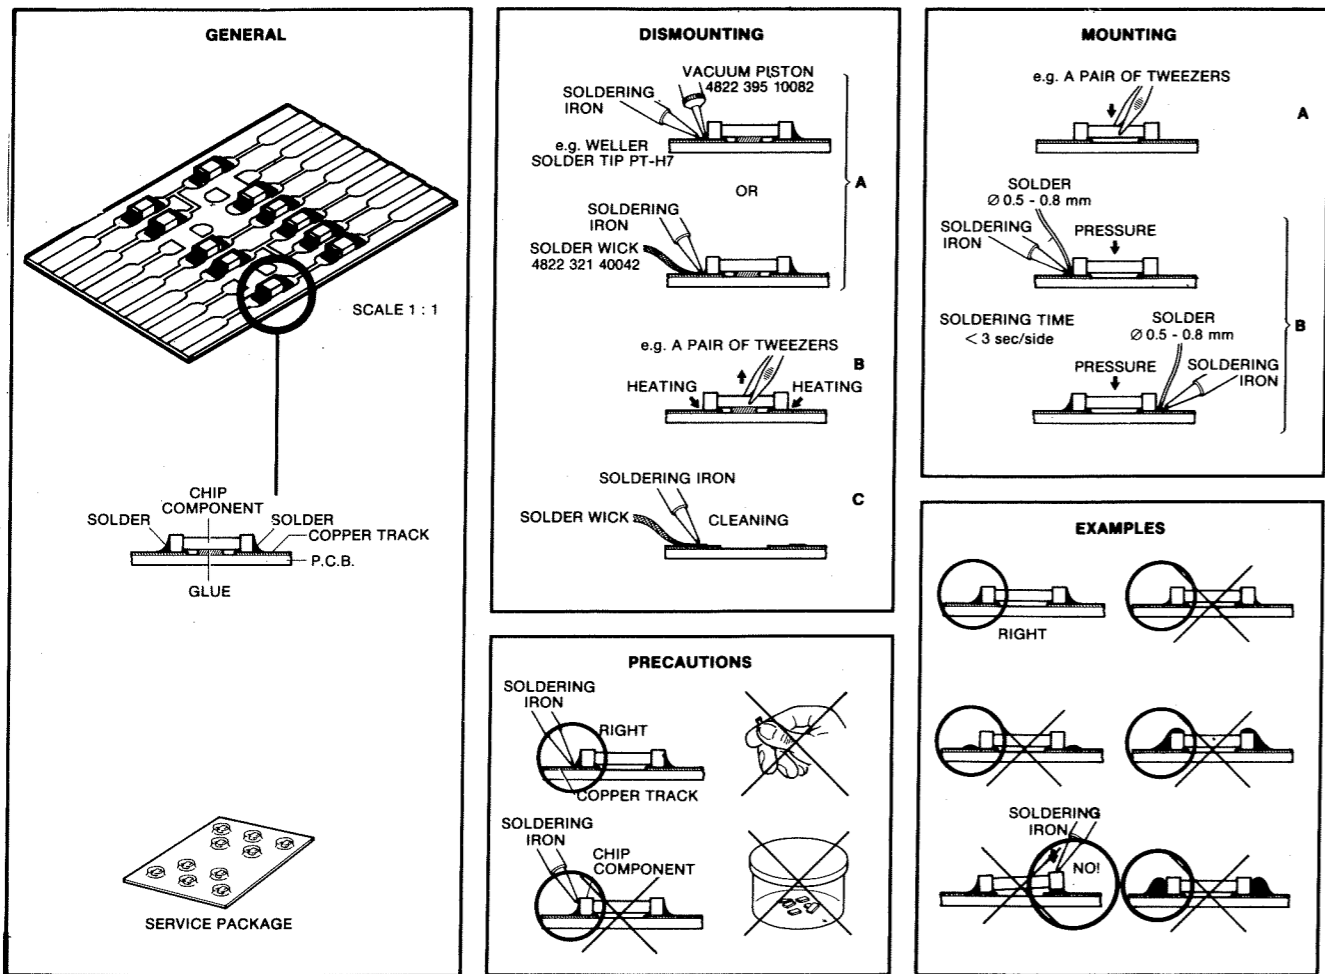

Fig. 1-4
- Several chip components have been applied in this set. For mounting or demounting of chip components see Fig. 1-4.